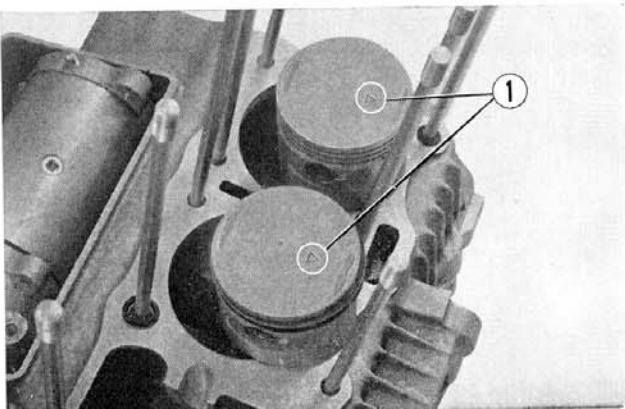

Fig. 3-67 ① Arrow marks
- Assemble the piston on the connecting rod so that the arrow mark on top of the piston is toward the exhaust side (forward) then install all new piston pin clips. (Fig. 3-67)